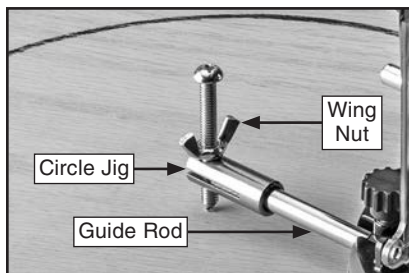

Figure 18. Circle jig installed on guide rod.
3. Install circle jig on end of guide rod and secure with wing nut (see **Figure 18**).